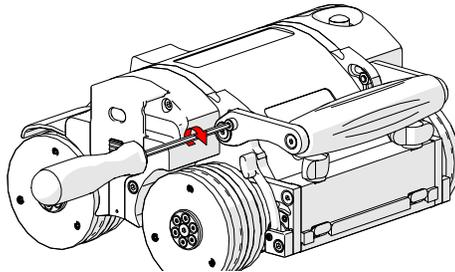

Fig. 95 - Tighten lock screws
3. Tighten the handle lock screws when complete (Fig. 95).